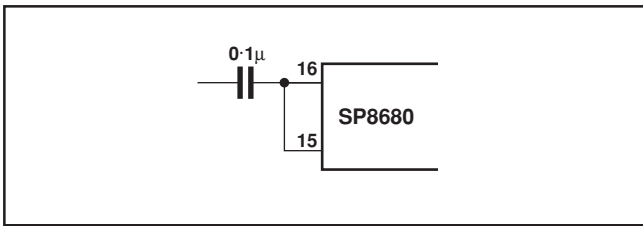
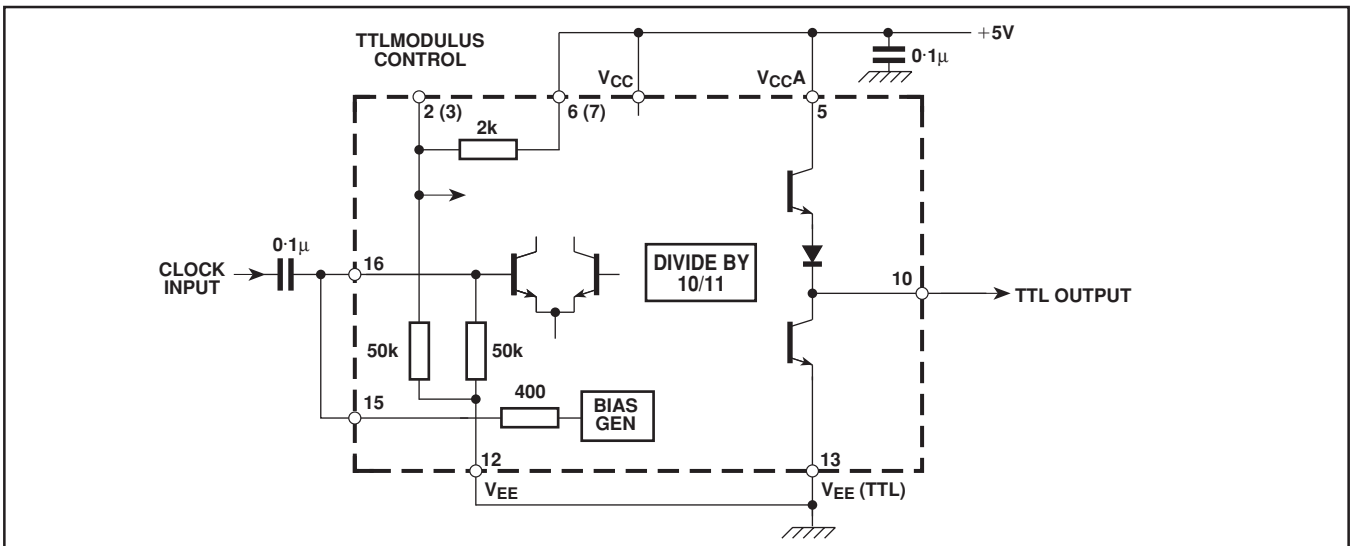
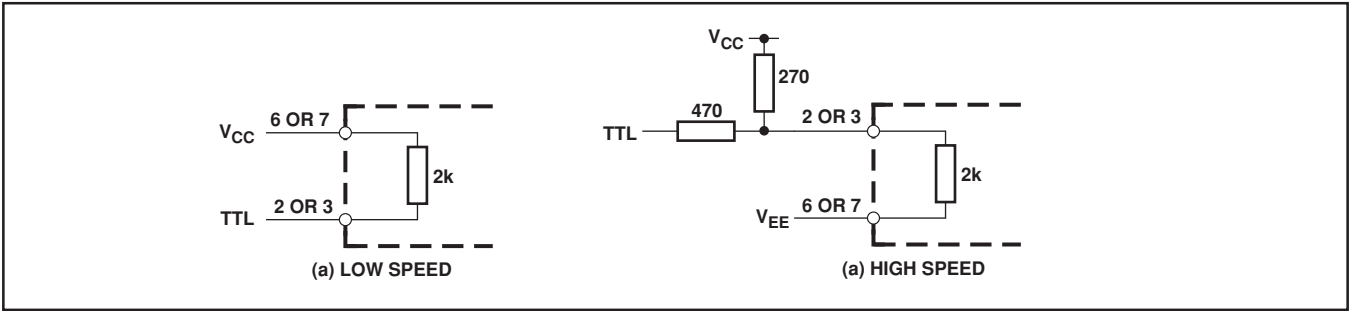

Fig. 7. AC coupled input
Fig. 8 Typical application showing TTL interfacing.
Fig. 9 TTL interface to PE1 and PE2
1. The clock input, which is ECL10K compatible throughout the temperature range -55°C to $+125^{\circ}\text{C}$, can also be coupled to TTL as shown in Fig. 9. The clock can also be capacitively coupled to the signal source (see Fig. 7). Connecting the internally-generated bias voltage to the clock input i.e., pin 15 to pin 16, centres the clock input about the switching threshold (see Fig. 8).
4. Both control inputs (PE1 and PE2) are ECL10K compatible throughout the temperature range. Each control input is provided with a pullup resistor, the remote ends of which are connected to pins 6 and 7, respectively. This allows the pullup resistors to be unused if so desired or to be used to interface from TTL (see Fig. 9). If interfacing to ECL is required then pins 6 and 7 should be left open circuit; alternatively, they can be connected to V_{EE} to act as pulldown resistors. When high, the master set input sets the divider to the eleventh state, is asynchronous and overrides the clock input.